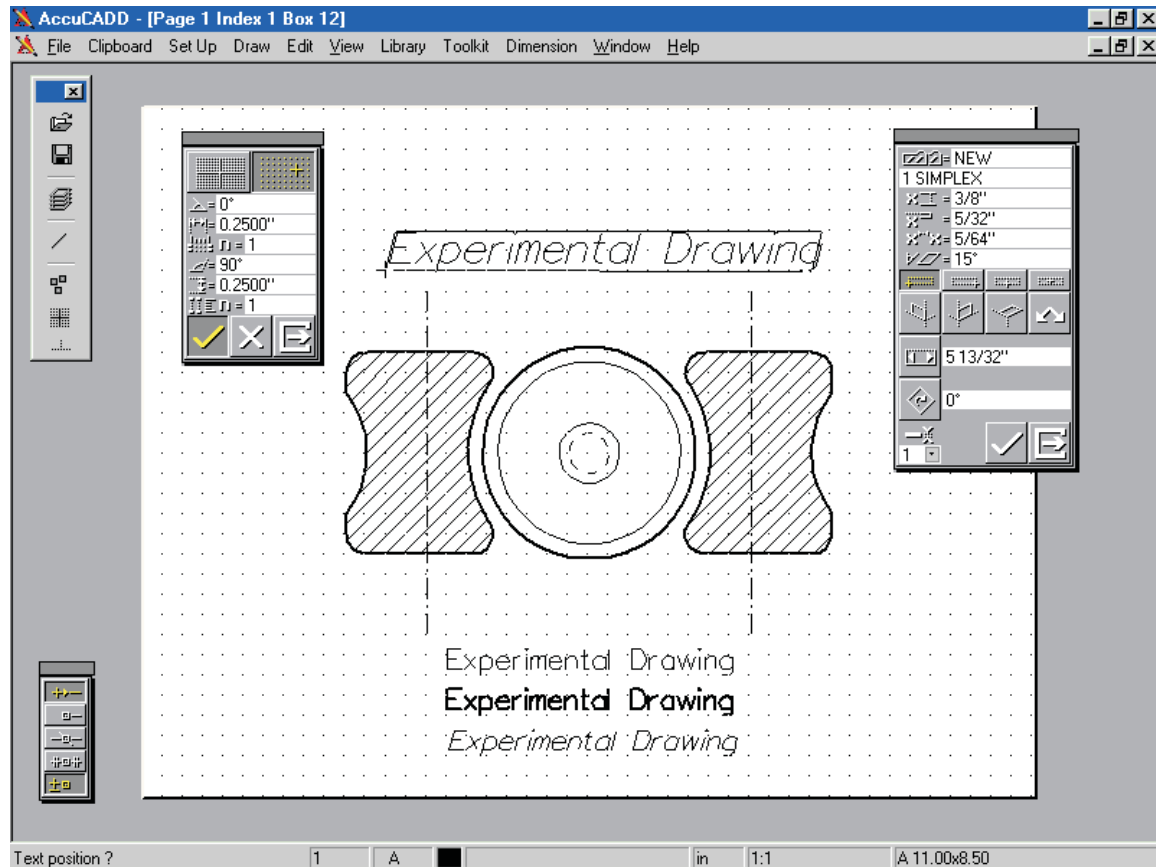

Figure 23: Changing text style, weight, and height
- Go back to line weight #1, and set the character slant to 15 degrees as in Figure 23, then add a third text label beneath the other two.
- Add the fourth text entry, as Figure 23.